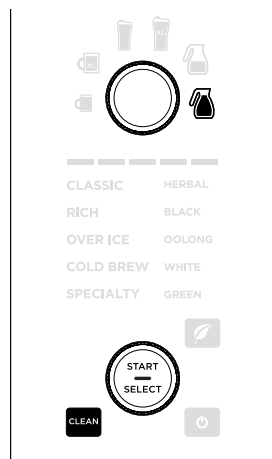

Fig. 22
- 3 Once the water reservoir is filled with your cleaning solution and water mixture, press the CLEAN button (**Fig. 22**).